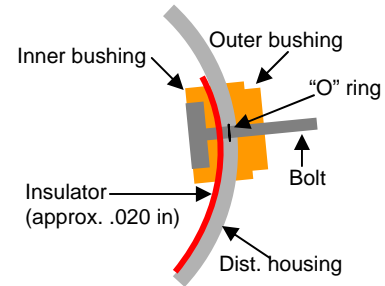

Fig. 4
27. Installed terminal bolt, inner bushings, insulator, “O” ring, and outer bushing. (Fig 4)